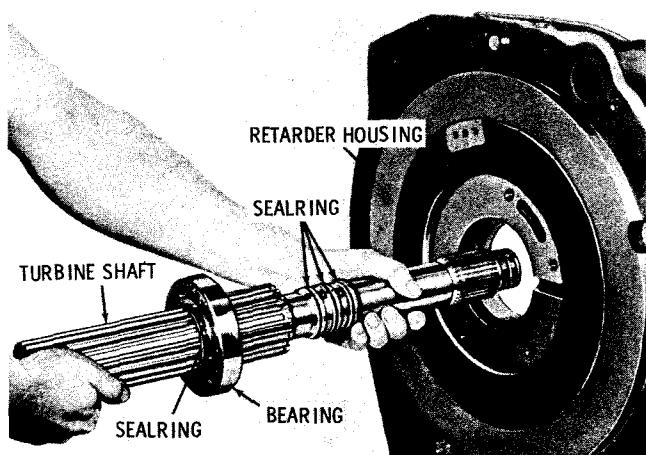

Fig. 7-41. Installing turbine output shaft (CBT, CLBT, prior to S/N 35993) S1688
(2) Install the ball bearing, sealing (not used in CBT) near the bearing, and three (two for CBT model) hook-type sealrings near the center of the turbine shaft (fig. 7-41).
(3) Install the turbine output shaft into the rear of the retarder housing (fig. 7-41).